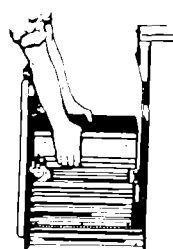

Figure 6
- b. Grasp side ridges of the drawer and lift drawer out. (See Figure 6.)